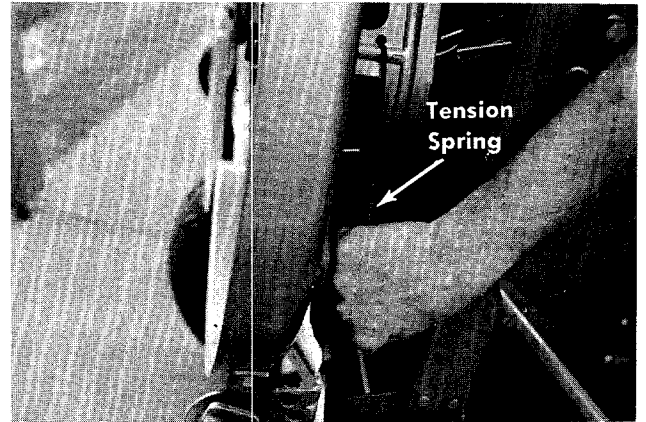

FIGURE 31. REMOVING TENSION SPRINGS
- Step 5. Unhook the tension springs on both sides of the deck. See figure 31.
Step 5. Unhook the tension springs on both sides of the deck. See figure 31.